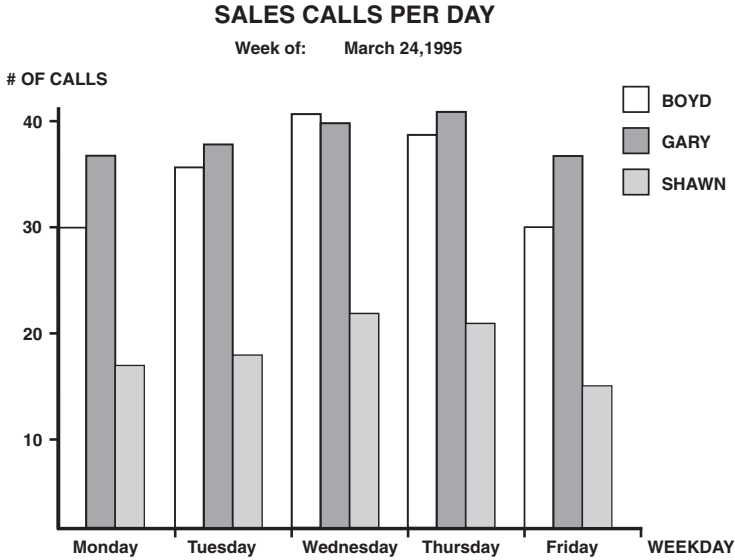

Figure 7-18. Finished bar chart.
1. Determine which GL elements are needed to create the desired output. (For example, the bar chart shown in Figure 7-18 uses four different GL elements.)
This section describes how multiple GL elements interact to create a bar chart like the one shown in Figure 7-18.
The bar chart shown in Figure 7-18 was created using the following parameters: